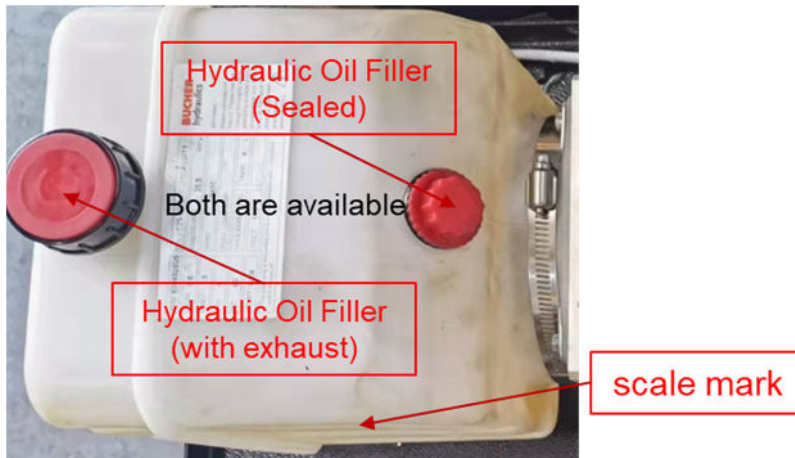

Fig.7.1.7 Console
d) Open the cover of the console and add about 3L ISO 32 Hydraulic Oil into the oil tank. Then reinstall the cover (Fig.7.1.7).